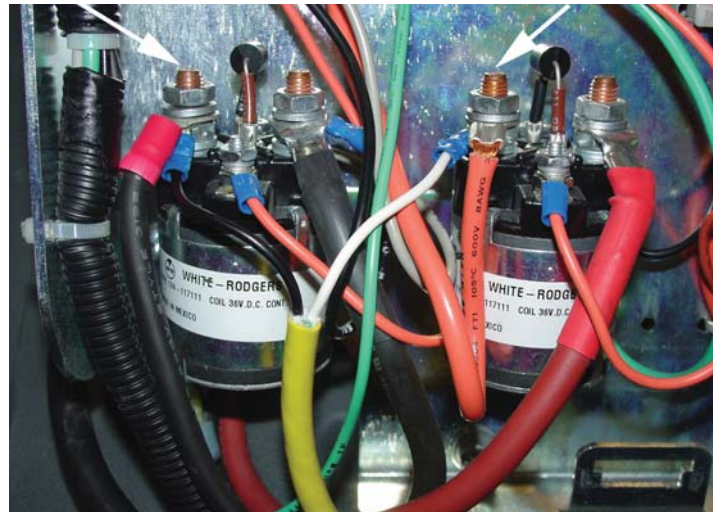

FIGURE 4
7. Route cord under active vacuum unit and through bracket. Attach ring terminal on black wire to stud on right side of left solenoid. Attach ring terminal on white wire to stud on right side of right solenoid See Figure 4. Replace cover and attach with screw.